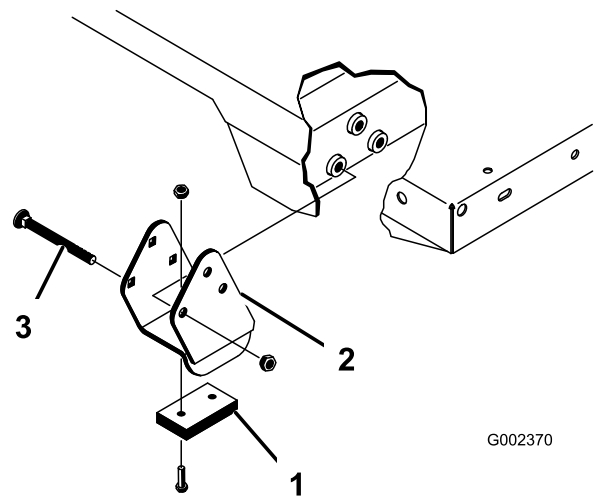

Figure 24
Ensure that the spacer brackets and wear blocks (Figure 24) are installed with the carriage-bolt heads positioned inside the machine.
2. Carefully set the bed onto the machine frame, aligning the rear bed pivot-plate holes with the holes in the rear frame channel, and install the 2 clevis pins and lynch pins (Figure 24).
4. Insert the clevis pin from outside of the bed with the lynch pin oriented toward the outside (Figure 24).